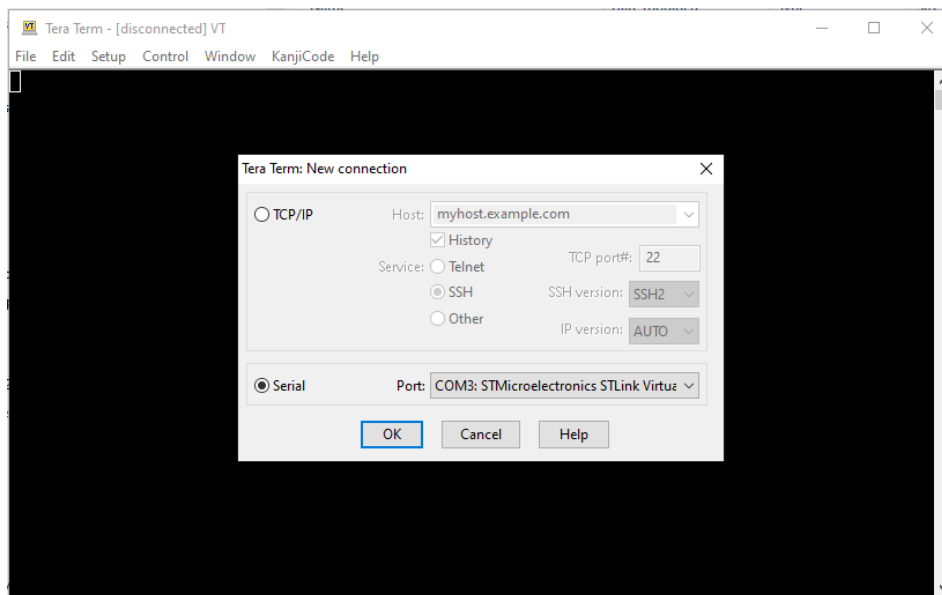

Figure 13: Select the serial port
Step2: Select the Serial and choose the correct com port as showed in figure 13.